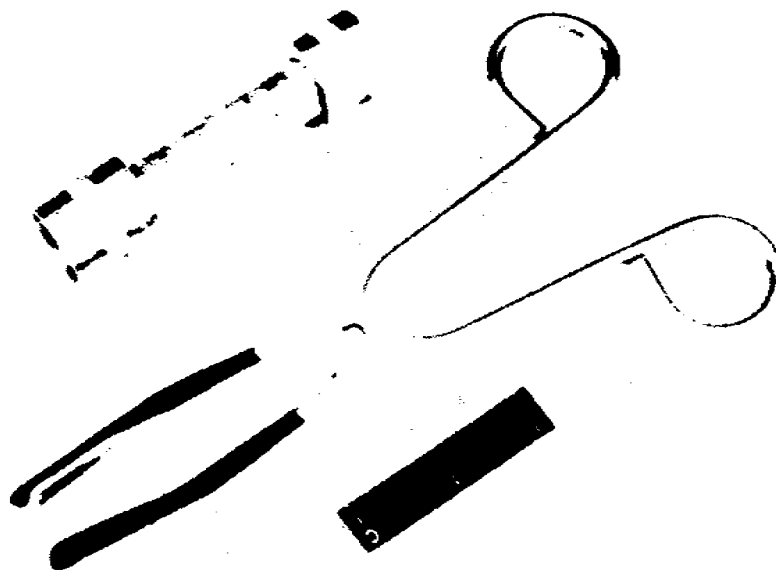

Figure 12. Special-purpose tools: tube extractor and pin straightener.
- e. Special-Purpose Tools (fig. 12). The forceps-like or pliers-like tool shown here is a tube extractor. The item that looks like a short section of pipe is really a pin straightener.